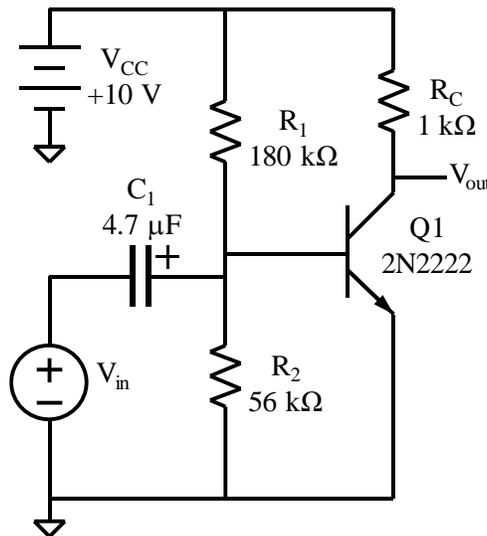

Fig. 1. Common-emitter amplifier without emitter resistor.
The CE amplifier in Fig. 1 has no emitter degeneration resistor. The resulting dc bias circuit quiescent point (Q-point) that is sensitive to  $\beta$  variation. However, it has high ac voltage gain. The function generator's signal is connected to the base through a dc blocking capacitor. The second CE amplifier in Fig. 2 has an emitter resistor, which makes the Q-point much less sensitive to  $\beta$  variation. But, the gain is much lower than that of the first circuit. The third circuit uses a capacitor to "bypass" the emitter resistor for ac signals, increasing the gain. The capacitor does not affect the dc bias circuit, so the Q-point is the same as for the second circuit.
1. For the three amplifier circuits in Figs. 1, 2, 3, and 4:
2. Consider the circuit in Fig. 1.
CE, no $R_E$ , Fig. 1